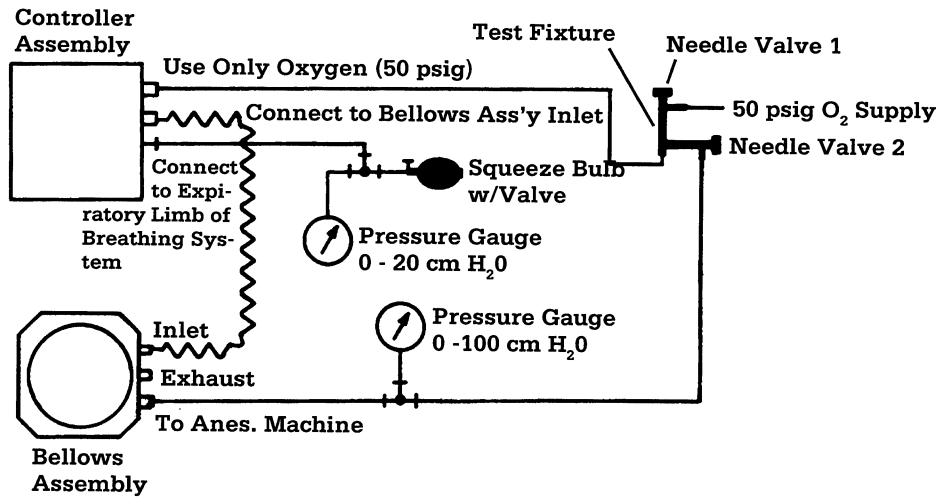

Figure 3-7
1. Connect the test equipment to the bellows and control assembly as shown in Figure 3-7.